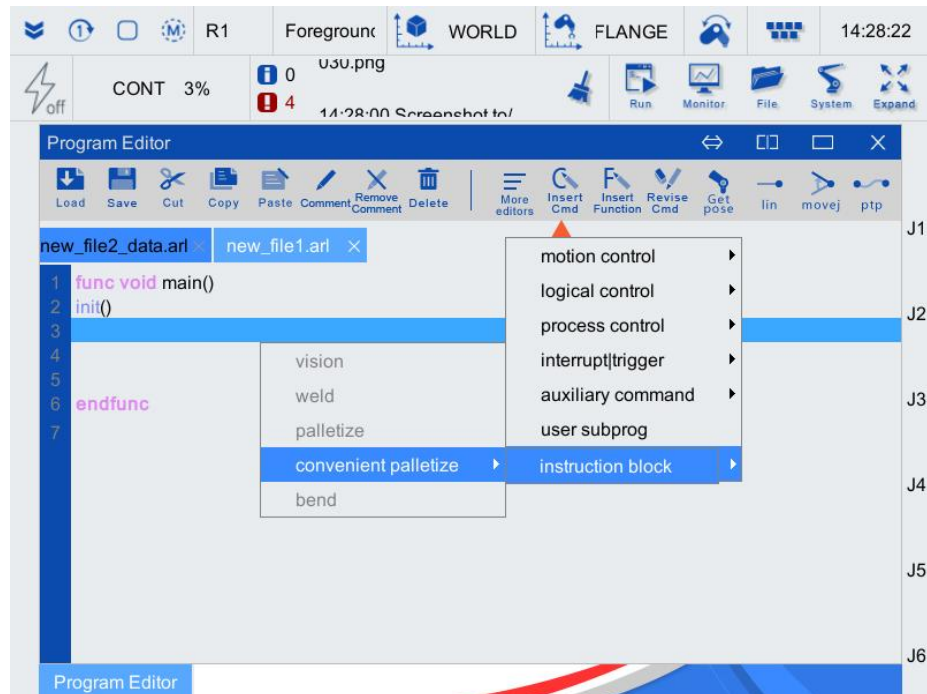

Figure 4-3 Drop down menu of inserted instructions
Step3. Click [insert cmd / function package / convenient palletize / instruction block], as shown in Figure 4-3.